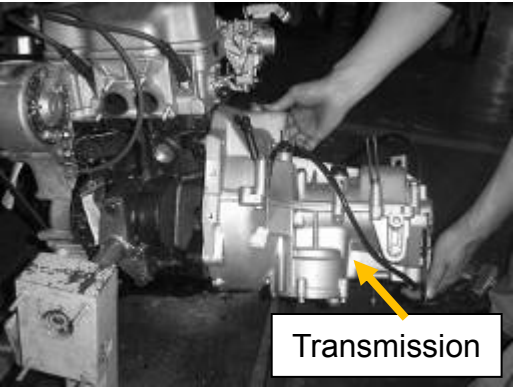
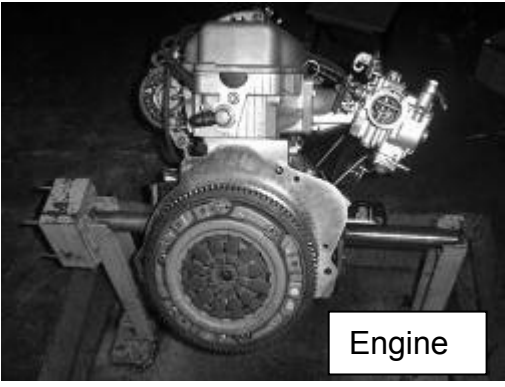

Figure 37
Figure 36
3. Remove the transmission (See Figure 36,Figure 37)